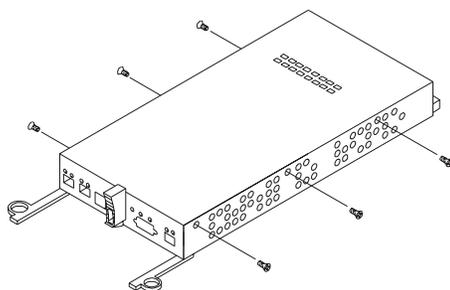

Figure 64. Controller battery-access panel screws
6. To remove the cache battery, place the RAID controller CRU bottom up on a flat surface. Using a #2 Phillips head screwdriver, remove the six screws (three on each side of the RAID controller) that hold the RAID controller bottom panel to the sides of the RAID controller, as shown in Figure 64 on page 77.
the RAID controller) that hold the RAID controller bottom panel to the sides of the RAID controller, as shown in Figure 64 on page 77.
9. To remove the cache battery, place the RAID controller CRU bottom up on a flat surface. Using a #2 Phillips head screwdriver, remove the six screws (three on each side of the RAID controller) that hold the RAID controller bottom panel to the sides of the RAID controller, as shown in Figure 64 on page 77.